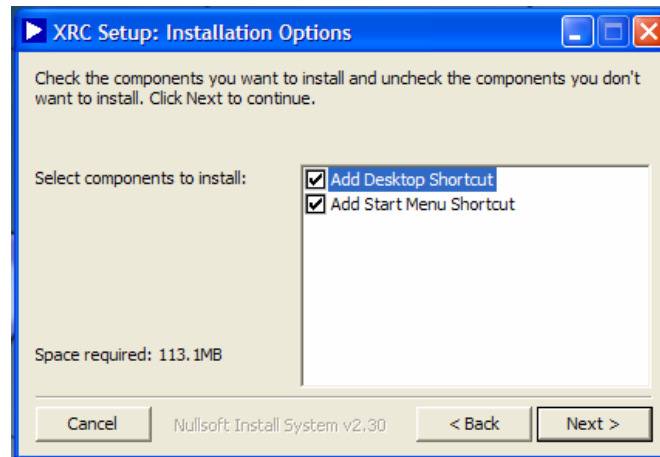

Figure 2 - Installation Options
3. Select the desired access links – desktop shortcut and/or start menu shortcut (see Figure 2)